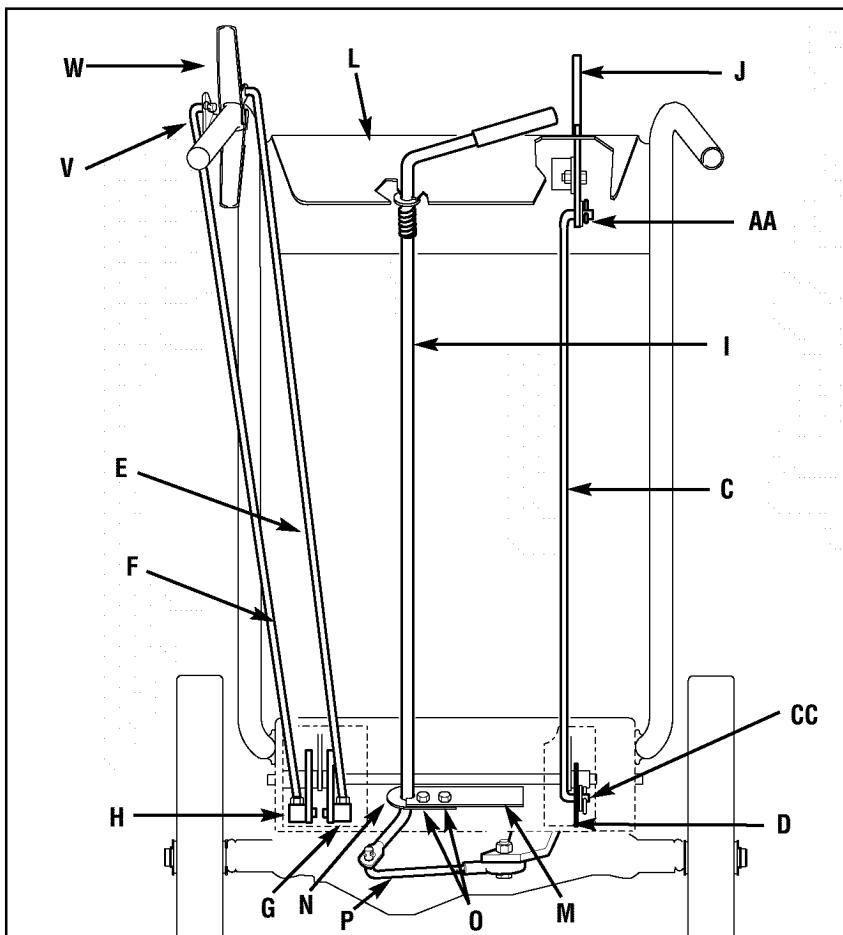
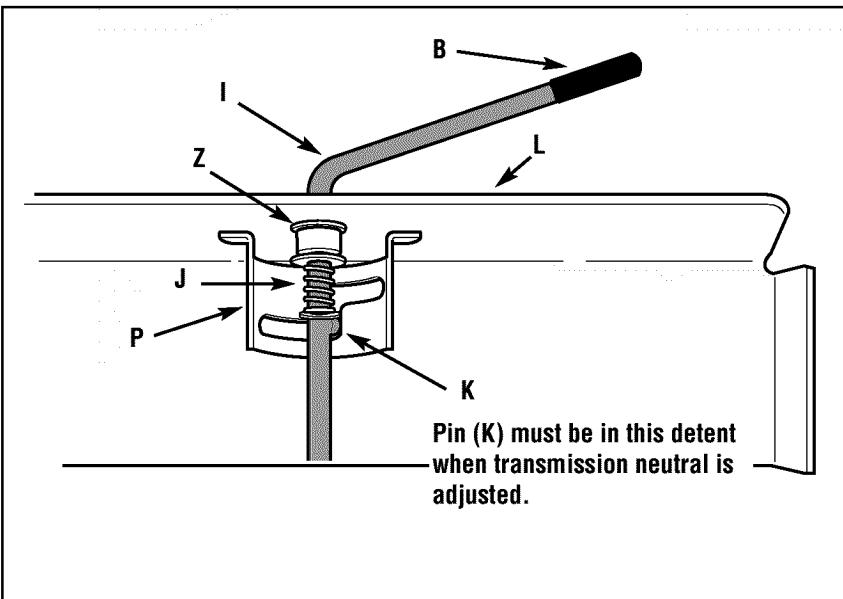
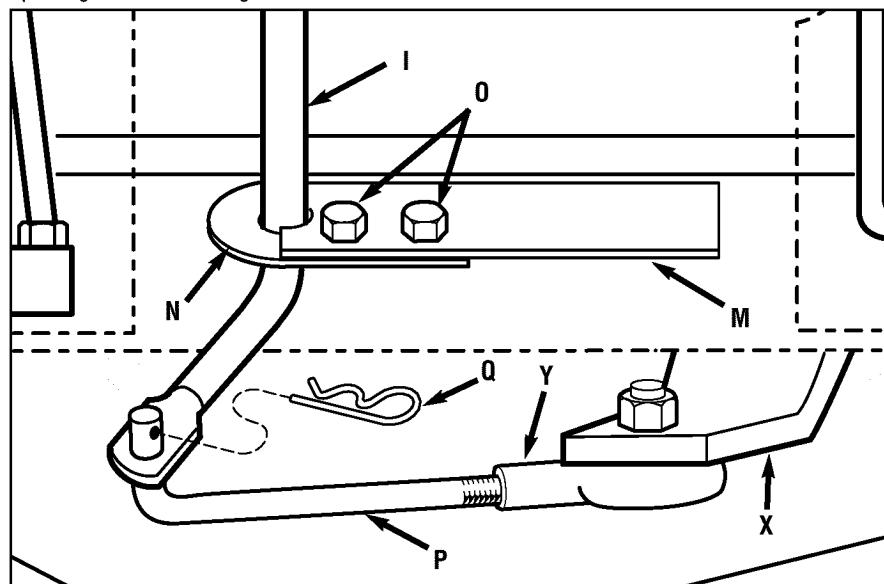

Figure 2-5: Rear view of control rods.
Figure 2-6: Detail – Gear Select Lever in Neutral (N) position.
Figure 2-7: Detail – Transmission Neutral Adjustment.
1. Locate the blade drive control rod (C, Figure 2-5). Insert one end of control rod into blade drive bracket (D, Figure 2-5). Add one 5/16" washer and attach with hairpin clip (CC).
2. Insert the other end of rod into bottom end of Blade Drive Control lever (J, Figure 2-5). Add one 5/16" washer and attach with hairpin clip (AA).
NOTE: The retaining plate (N, Figure 2-5) mentioned in the following steps is secured to the rear of the mower with two screws (O, Figure 2-5) and 1/4"-20 lock-nuts. Remove the retaining plate and save it, along with the two screws, before proceeding with assembly.
1. Remove the vinyl grip (B, Figure 2-6) from the gear select lever (I). Place the wood edge against the edge of the grip and slowly pull off the grip.
2. Insert nylon bushing (Z, Figure 2-6) up into console (L).
3. Slide spring and washers (J) down onto gear select lever.
4. Insert gear select lever (I) up through nylon bushing (Z) in handlebar console (L). Guide pin (K) on gear select lever into groove in shift quadrant (P).
5. Hold lower part of gear select lever (I, Figure 2-7) against bracket (M). Position retaining plate (N), removed earlier, as shown in Figure 2-7 (plate below bracket). Secure plate with two 1/4"-20 x 1/2" screws (O) and 1/4"-20 locknuts removed earlier.
6. Slide grip (B, Figure 2-6) back onto gear select lever (I).
7. Rotate gear select lever (I, Figures 2-6 & 2-7) clockwise until spur (K - short rod) on gear select rod stops in the neutral position detent on the shift pattern quadrant (Figure 2-6).
8. Move shift arm (X, Figure 2-7) from side to side as necessary into each transmission gear detent until transmission is in neutral.
NOTE: Moving shift arm (X) all the way to the left, and then one notch back to the right, should put transmission into neutral. When transmission is in neutral, unit will move freely when pushed while holding the Operator Presence Control lever (W, Figure 2-5) down. If transmission is NOT in neutral, there will be a slight drag on the wheels when pushing unit.
9. When shift arm (X) is in neutral position, rotate shift link (P) toward end of gear select lever rod (I). Adjust length of shift link (P) as necessary to fit into hole in bottom of gear select lever (I).
NOTE: Pin (K) on Gear Select Lever (I) must be held in the neutral position detent on the shift quadrant (see Figure 2-6) while shift link (P, Figure 2-7) is adjusted.
10. Insert hooked end of shift link (P, Figure 2-7) into hole in bottom end of gear select lever (I) and secure with hairpin clip (Q).
11. Remove unit from shipping crate. To remove, hold down Operator Presence Control lever (W, Figure 2-5) which releases the wheel brake.
12. With unit on level ground, hold down Operator Presence Control lever (W, Figure 2-5) and push unit forward and backward. The wheels should move freely. If not, adjust length of shift link (P, Figure 2-7) as necessary.
13. Put the Gear Select Lever in neutral (N), release all of the control levers and try to push the unit forward and backward. The wheels should not turn. If they do turn, an adjustment is necessary. **DO NOT OPERATE THE UNIT UNTIL THE WHEEL BRAKE MECHANISM HAS BEEN ADJUSTED AND IS WORKING PROPERLY.** See "Wheel Brake Adjustment" in Section 5 "Maintenance."
- Move mower to a level area. Press and hold Operator Presence Control lever (W, Figure 2-5) to move mower.